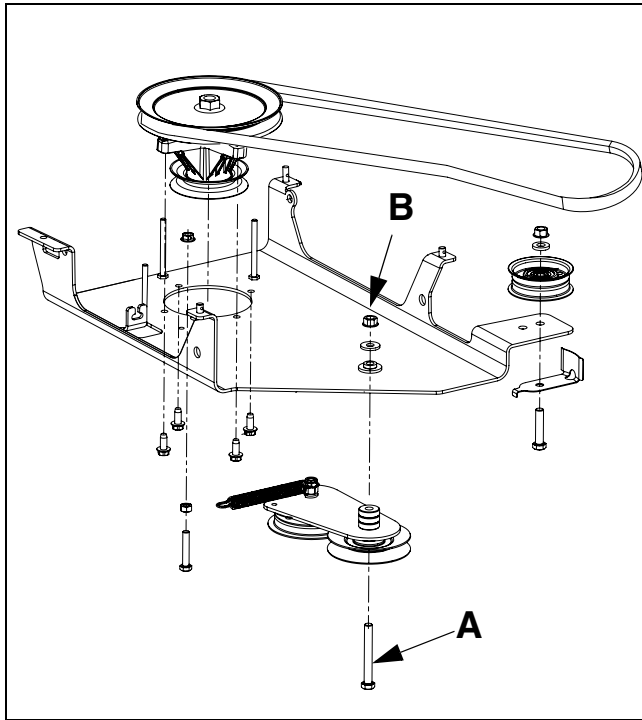

FIGURE 3
8. Install the three belt keepers removed from the 823 undercarriage assembly onto the new Undercarriage Bracket Assembly, Item 1, of this kit in the same locations as on the 823 undercarriage. See Figure 3.
10. Install the remaining components removed from the 823 undercarriage assembly onto the new Undercarriage Bracket Assembly, Item 1. Ensure that all components are assembled in the same position as was on the 823 undercarriage. See Figure 3. Tighten all mounting hardware except bolt "A" and nut "B". See Figure 3.